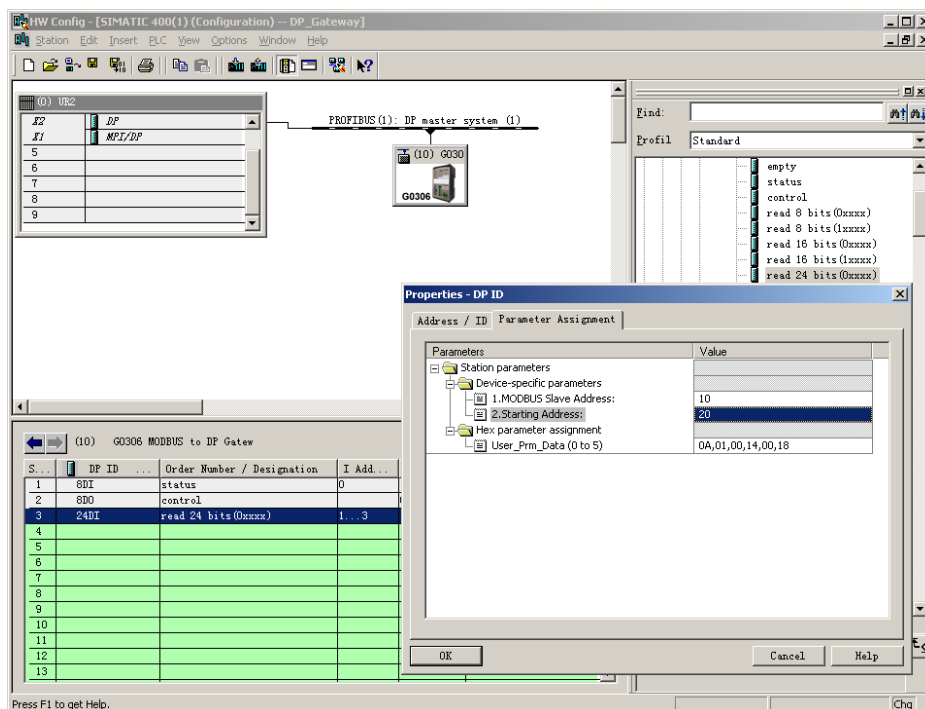

Figure 17 Configuration of“read 24 bits(0xxxx)” Module User Parameter
b) Configuration of “read 24 bits(0xxxx)” module user arameter, shown as Figure 17:
“1.Modbus Slave Address:”⇒ type MODBUS slave address 10, as shown in Figure 17
“2.Starting Address:”⇒ type will-read coil 0xxxx starting address 00021, set the address as 20⇒“OK”, shown as Figure 17.